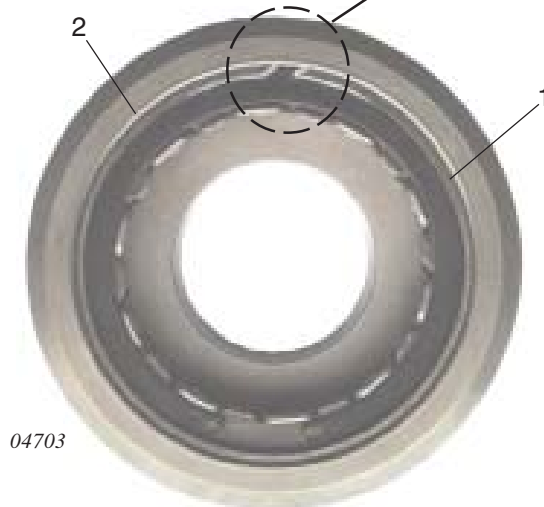

Fig. 2
■ **CAUTION:** Make sure that the new circlip will be fitted as depicted in fig. 2 Detail A. To warrant a tight fit pay attention to correct position of the circlip ends (3).